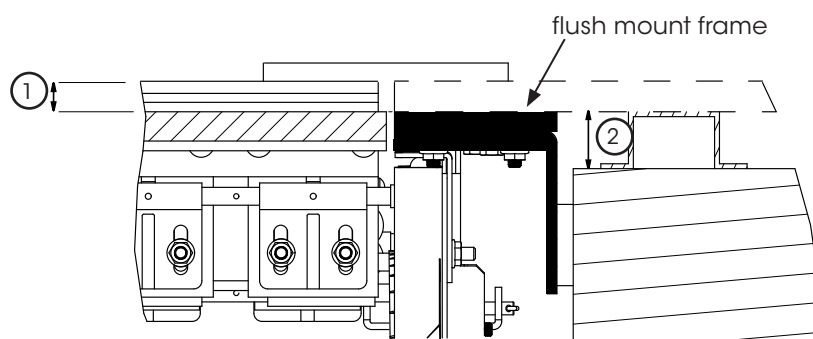

Fig: 1.4.2
- Open the package of door panels and measure the depth of the cladding on the panel ①.
- Measure the distance of the battons from the wall ②. If battons not in place, obtain this information from the builder in order to proceed. See Fig 1.4.2.